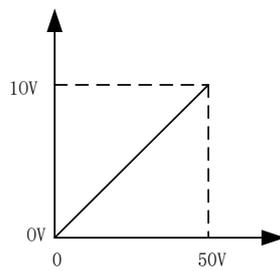

Figure 5-20 Corresponding relation of given voltage at manual mode
4. Corresponding relation of given voltage at manual mode is shown in Figure 5-20.